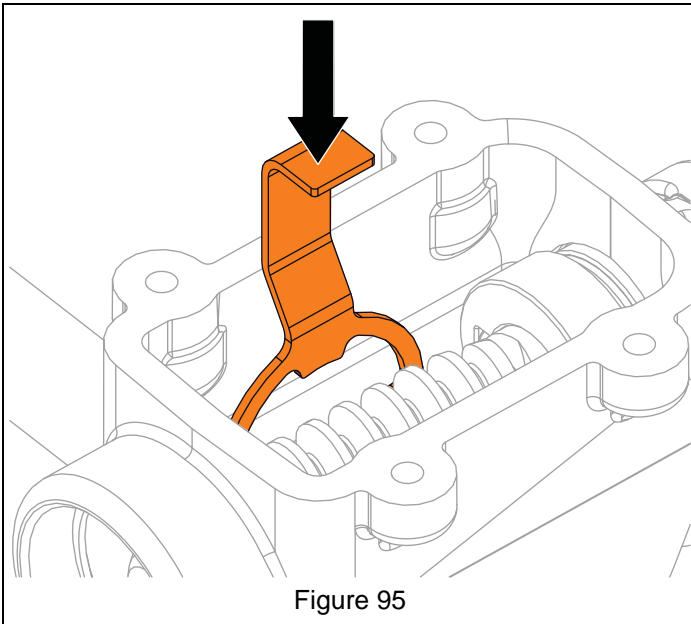

Figure 95
19. Reinstall bushing retainer into flange bushing groove. See Figure 95.